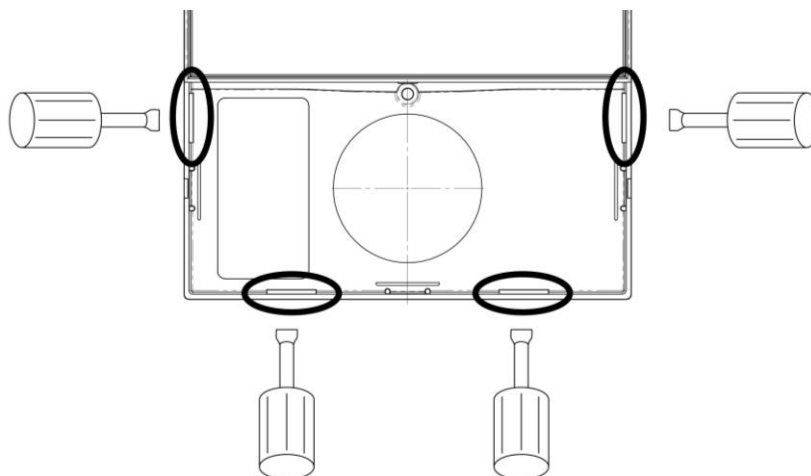

Figure 3.11 - Opening the housing - Step 3
- On the four slots in the front part as indicated in Figure 3.11, press the edges outwards so that the tabs underneath release, and remove the front part from the rear part.